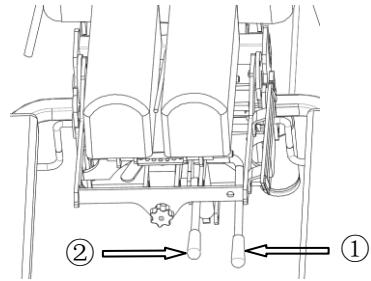

Figure 4
- Lift up the pull rod ① in Figure 4 to adjust head plate angle.
- Lift up the pull rod ② in Figure 4 to activate head plate drop section. Then press down the head plate to achieve the effect of the drop pressure.